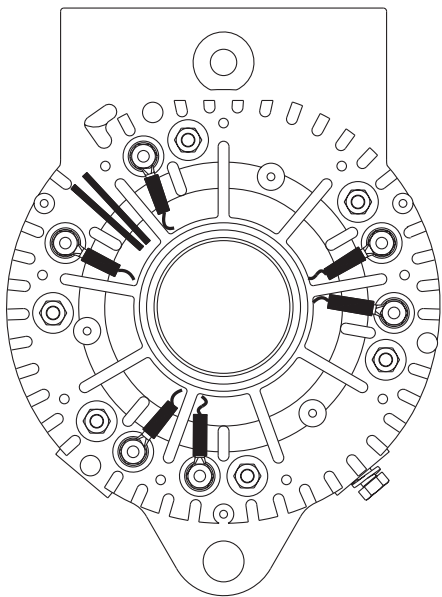

Figure 3 – Phase Lead Connections
5. Attach phase leads to diode studs as marked in Disassembly step 8. Torque nuts to 3.4 Nm/30 lb. in. Coat all diode studs with Dow Corning® 3140 RTV or equivalent. See Figure 3.